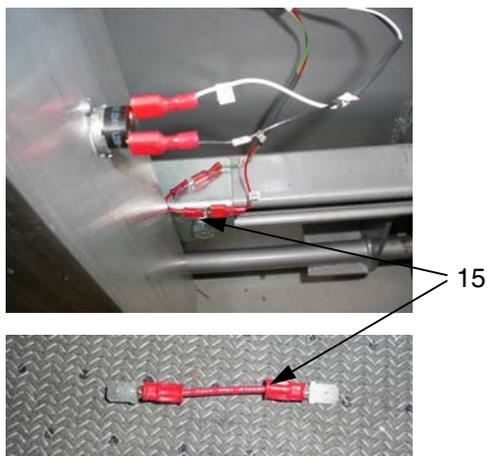

FIG. 20
- *Single heater units:* Connect black and white wires to the switch. Connect green and red wires to supplied red jumper wire (15). See FIG. 20.